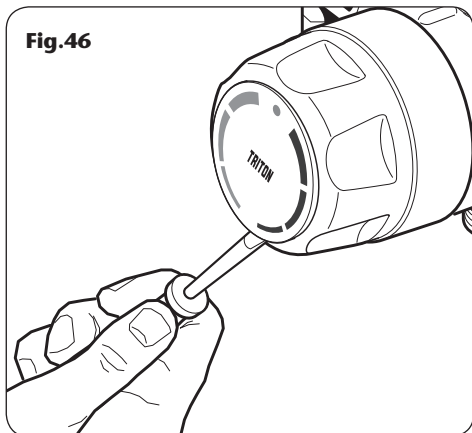

Fig.47
- c. Unscrew the control knob screw and pull off the control knob (**fig.47**).